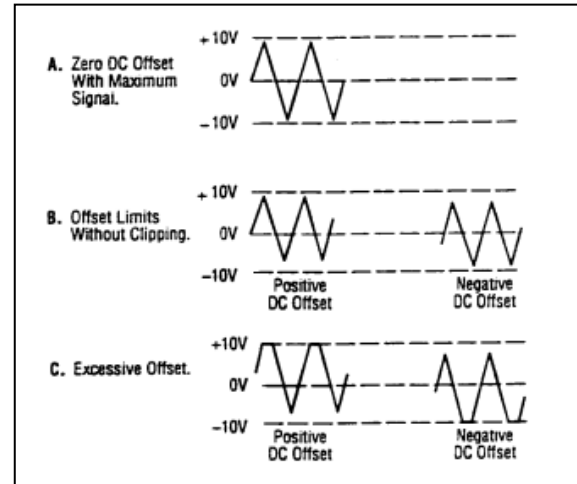

Figure 3. Use of DC OFFSET Control
7. A superimposed DC component can be added to the output signal by engaging the **DC OFFSET** switch (12) to enable operation of the **DC OFFSET** control (5). Rotation of this control adds a positive or negative DC component to the output signal. The DC component introduced is independent of the **OUTPUT LEVEL** control and can be varied by  $\pm 10$  volts open circuited or  $\pm 5$  volts into  $50\ \Omega$ . The DC Offset does not affect the **TTL/CMOS** output jack. The effect of DC OFFSET is shown in Fig. 3.
6. Remember that the output signal swing of the generator is limited to  $\pm 10$  volts open circuited or  $\pm 5$  volts into  $50\ \Omega$ , and applies to the combined peak-to-peak signal and DC offset. Clipping occurs slightly above these levels. Fig. 3 illustrates the various operating conditions encountered when using the DC offset. If the desired output signal is large or if a large DC offset is required, an oscilloscope should be used to make sure that the desired signal is obtained without undesirable clipping.